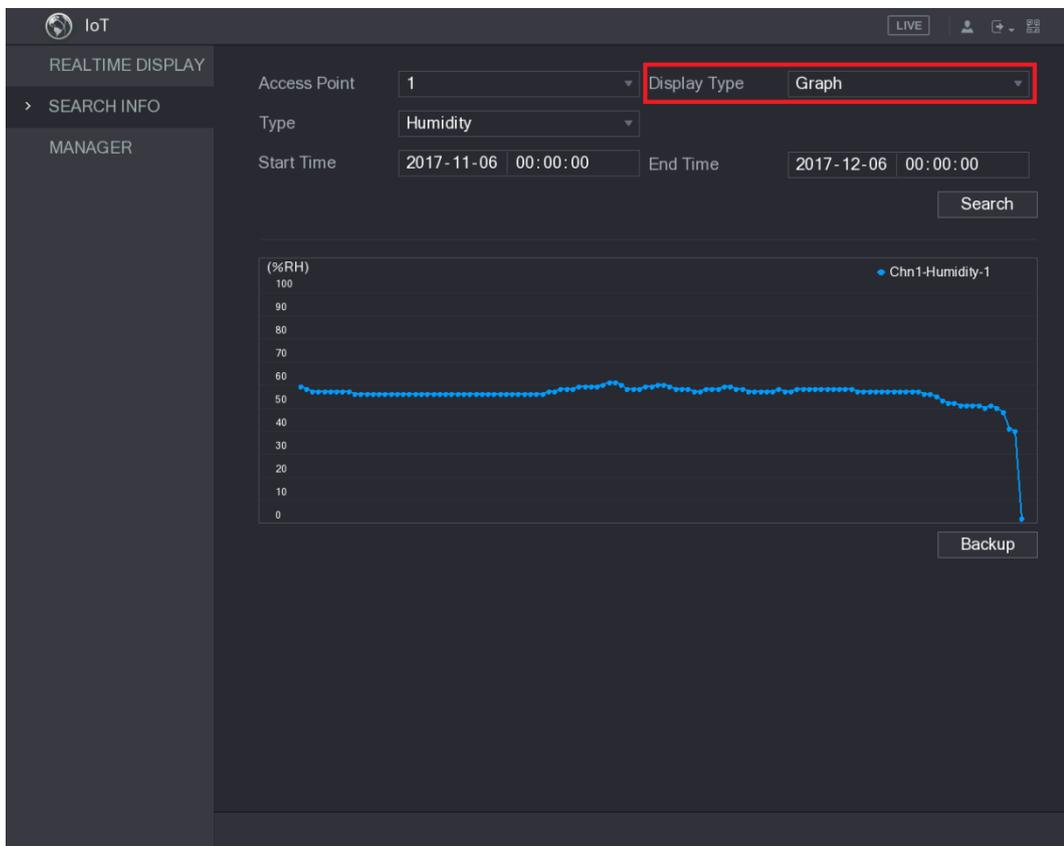

Figure 5-177
- For the data displayed in graph, see Figure 5-177.